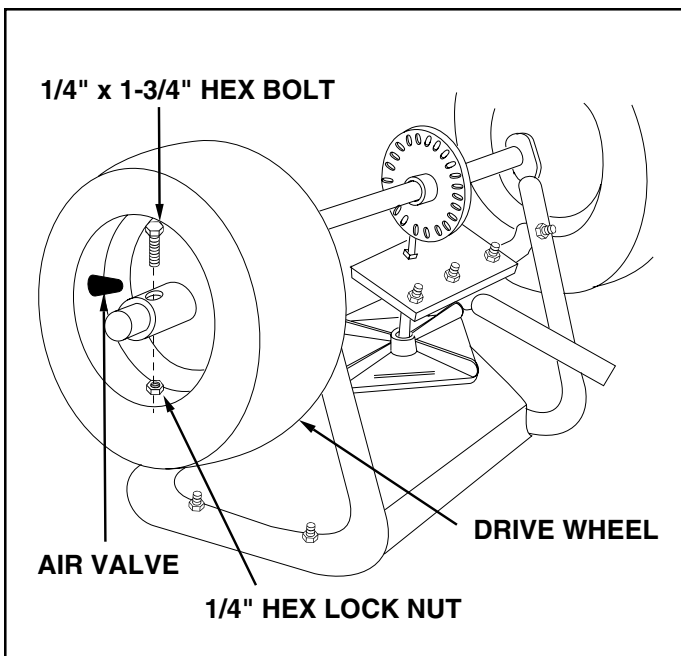

FIGURE 7
- Place the drive wheel onto the axle (air valve to the outside) and secure with 1/4" 1-3/4" hex bolt and 1/4" hex lock nut. See figure 7.